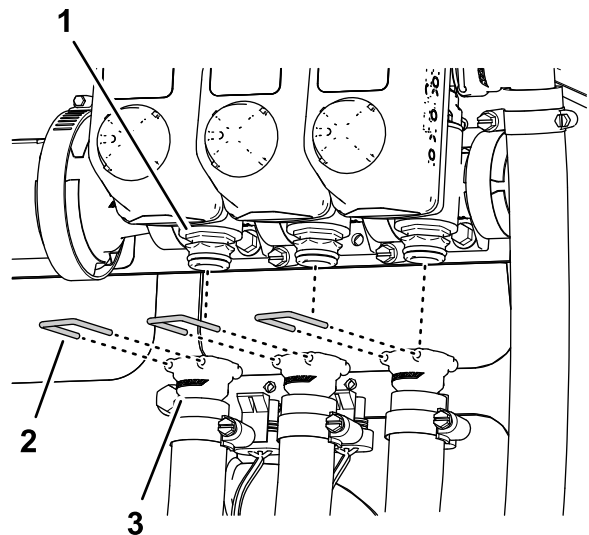

Figure 35
6. Remove the retainers that secure the quick couplers of the left, center, and right supply hoses from the quick couplers if the spray-section valves (Figure 35).
7. Remove the left, center, and right section-supply hoses from the quick couplers of the spray-section valves, and remove the hoses from the machine (Figure 35).